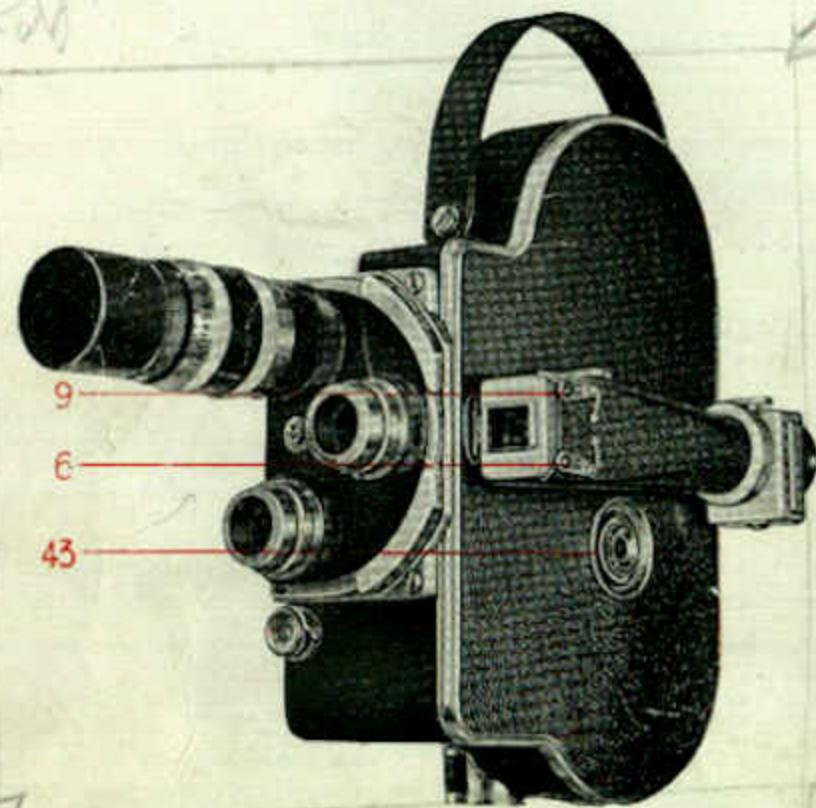

Fig. 8.
- Remove the lid by means of button 43 (Fig. 8), giving a half-turn anti-clockwise (0<—).